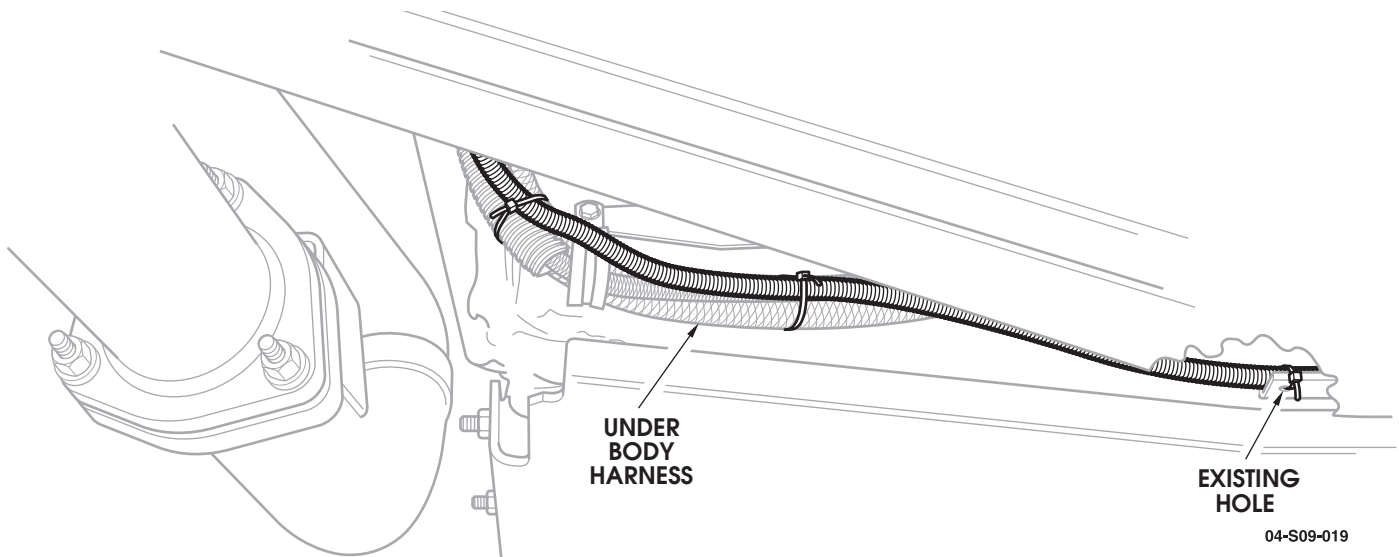

Figure 18: Rear lead secured at the left rear wheel well area.
31. Using a tie strap, secure the harness to the body flange in the existing hole at the front of the rear wheel well (See Figure 18).